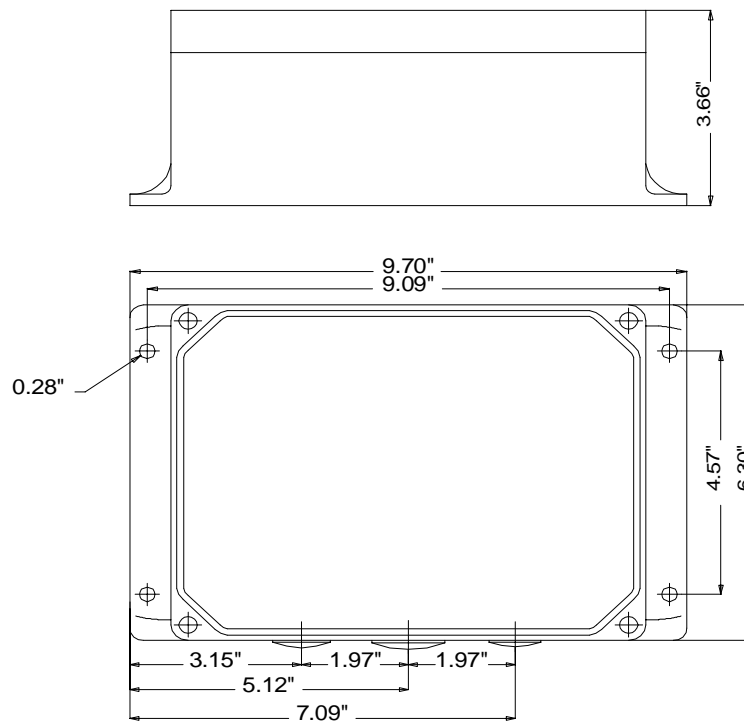

Figure 2.3: JRX-10 Enclosure Mounting Dimensions
Use Figure 2.3: JRX-10 Enclosure Mounting Dimensions for dimensions and mounting hole spacing.
2. Refer to Figure 2.3: JRX-10 Enclosure Mounting Dimensions. Drill holes 7 mm in diameter (.28 in.) into the mounting surface. The depth of the hole depends on the type of screw you are using to mount the receiver enclosure.